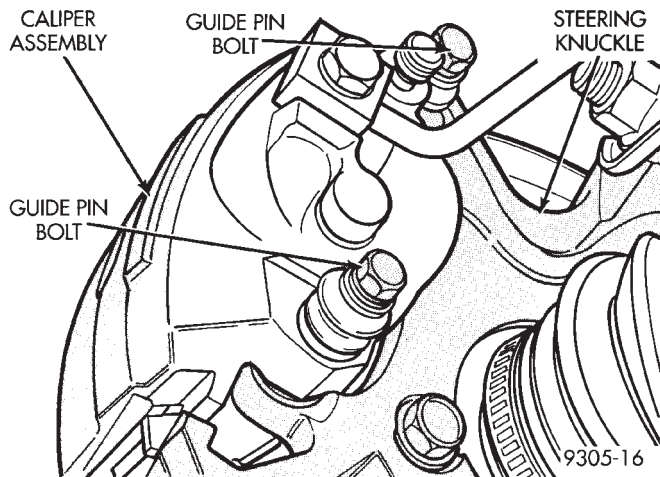

Fig. 1 Removing Caliper Assembly Guide Pin Bolts
(1) Raise vehicle on jackstands or centered on a hoist. See Hoisting in the Lubrication and Maintenance section of this manual.
(2) Remove front wheel and tire assemblies from vehicle.
(3) Remove the 2 caliper assembly to steering knuckle guide pin bolts (Fig. 1).